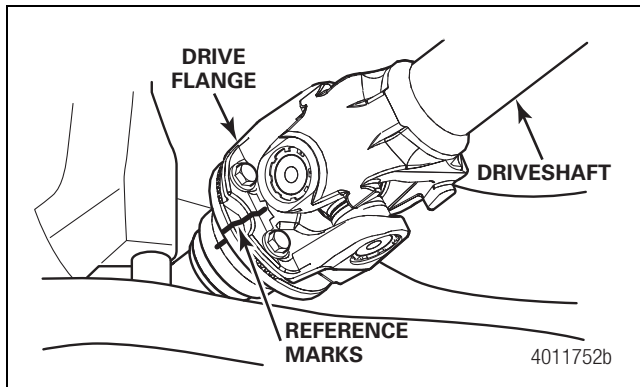

Figure 4.78
2. Align the driveline drive flange to the vehicle input drive flange according to the reference marks made during removal. The driveline must be reinstalled with the same phasing. Figure 4.78.